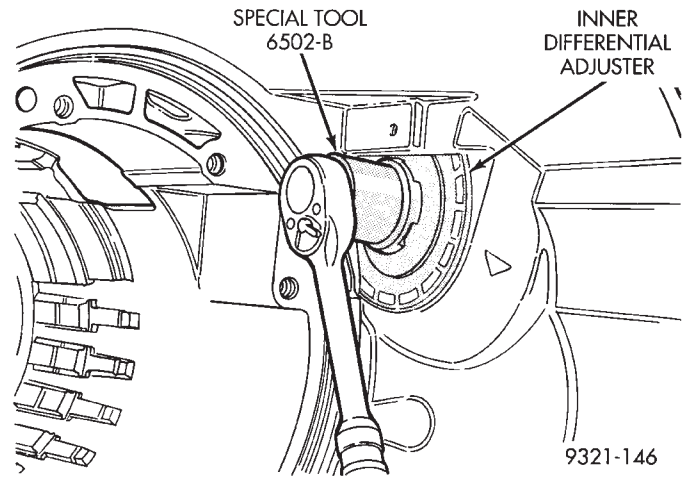

Fig. 265 Inner Adjuster Installation
(23) Lube adjuster threads and O-ring with gear oil before installing. Failure to lube threads will result in thread damage to the adjuster and transaxle case.
(24) Screw in the inner adjuster using special tool 6502B (Fig. 265). The inner adjuster should be screwed in until under-flush with inside of the case (viewed from differential side).